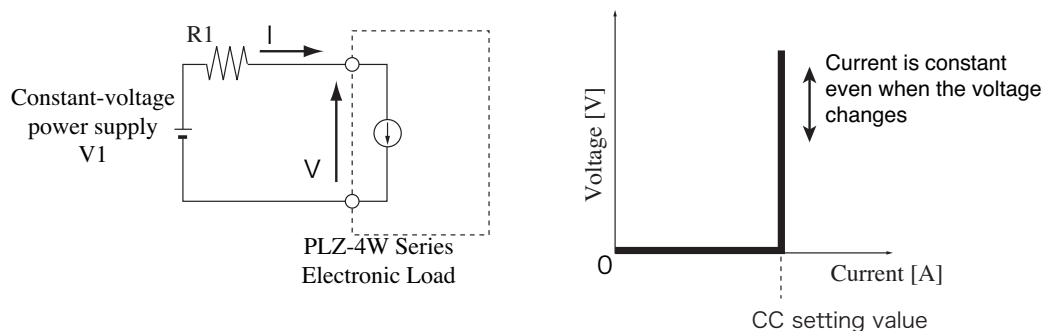

Fig. A-2 Equivalent circuit of the constant current load and operation
When the PLZ-4W is used in CC mode, the PLZ-4W operates as a constant current load as shown in Fig. A-2. The PLZ-4W sinks the specified current (I) independent of the output voltage of the constant-voltage power supply (V_1).